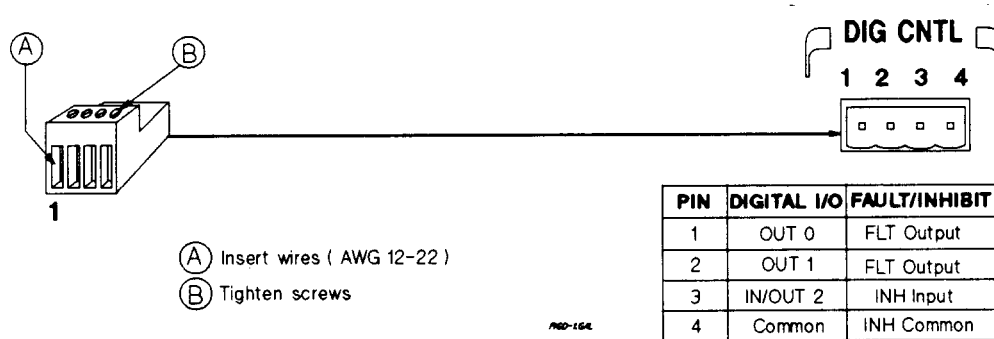
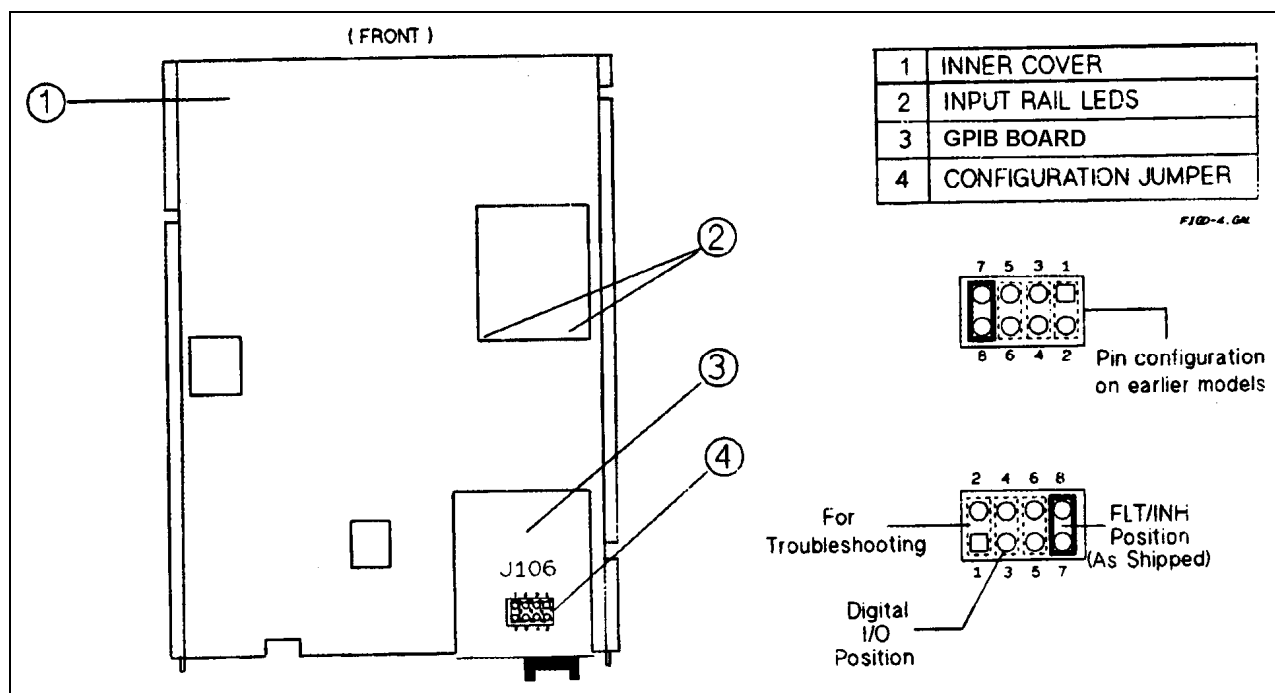

Figure D-1. Digital Port Connector
Figure D-4. Digital Port Configuration Jumper
A 4-pin connector and a quick-disconnect mating plug are provided for digital input and output signals (see Figure D-1 for wiring connections, and Table 1-5 in Chapter 1 for electrical characteristics). This digital port can be configured to provide either Fault/Inhibit or Digital I/O functions.
As shipped from the factory, the digital port is configured for FLT/INH operation. You can change the configuration of the port to operate as a general-purpose digital input/output port to control your custom circuitry as shown in Figure D-4. To change the port configuration, you must move a jumper on the GPIB board.
5. Refer to Figure D-4 and use needle-nose pliers to move the jumper to the Digital I/O position.
The digital port can be configured (see Figure D-4) to provide a digital input/output to be used with custom digital interface circuits or relay circuits. Some examples are shown Figure D-5. See Figure D-1 for the pin assignments of the mating plug and Table 1-5 for the electrical characteristics of the port. See **DIG:DATA[:VAL]** in “Chapter 3 - Language Dictionary” of the Programming Guide for information on programming the port. The digital port pins are as follows:
The digital port can be configured to provide relay control outputs for the Agilent 59510A or 59511A Relay Accessory. Refer to Figure D-1 for the pin assignments of the mating plug.